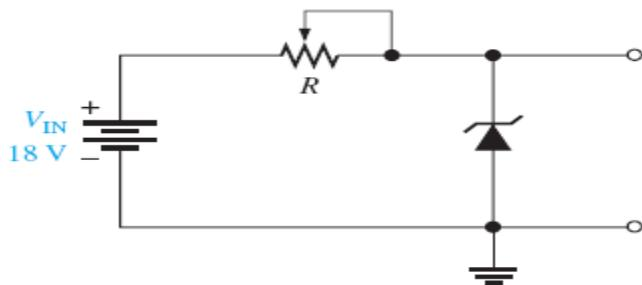

Figure 3–60
9. A 20 V peak sinusoidal voltage is applied to the circuit in Figure 3–60 in place of the dc source. Draw the output waveform. Use the parameter values established in Problem 8.